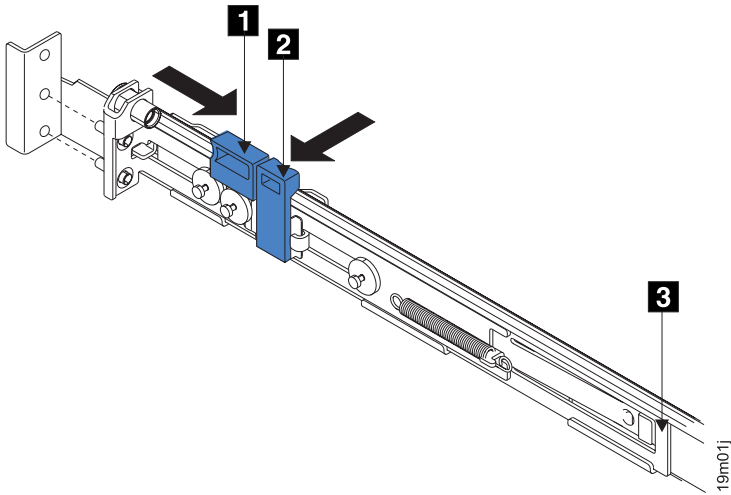

Figure 62. Opening the back latch-lock carrier assembly
5. Push the back rail bracket **1** (Figure 62) toward the front of the rail until it stops. The rail is now at its shortest adjustment.